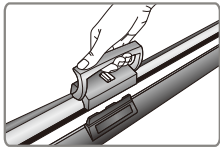

Figure 7
4. Pull up the screen with constant speed and stop at desired position for three minutes so that the screen can be installed (Figure 7 - 10).